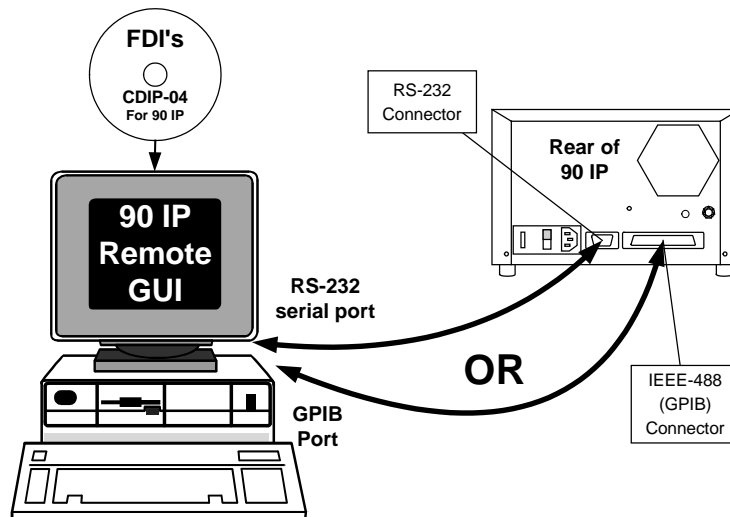
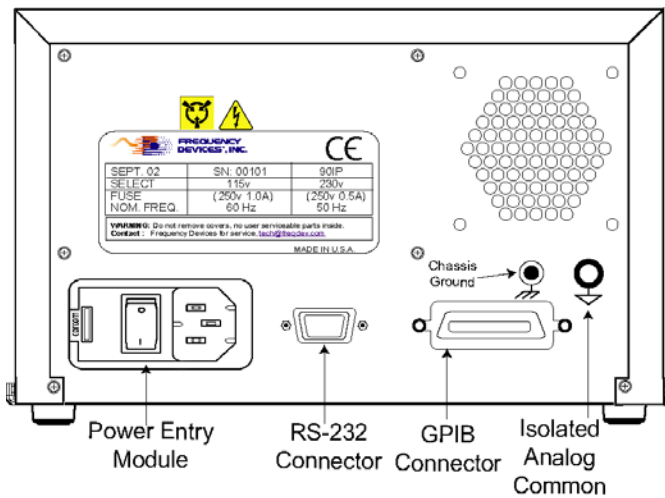

Figure 1.3 – GPIB & RS-232 Interconnection
Figure 2.1b – 90IP Rear Panel
Each Model 90IP controller contains a hard front panel that provides Function and Select capabilities, an Enter button, and a backlit Liquid Crystal Display (LCD). Upon selection of each slot card (1 thru 4), smartSLOT Technology automatically configures each cards control functions. Soft front panel operation is available via the GPIB or RS232 communication ports (Figure 1.3).
See **Figure 1.3** for the typical GPIB & RS-232 setups,
The Model 90IP consists of a chassis, controller, and space for up to four smartSLOT, slot cards that interface directly with a remote control PC, fitted with RS232 or a GPIB or interface card. 90IP controller connectors are shown in **Figures 2.1b & 2.1c**. Standard GPIB or RS-232 cable connections are shown in **Figure 1.3**.
3.4 – AC Line Voltage Selection (90IP) - See Figure 2.1B